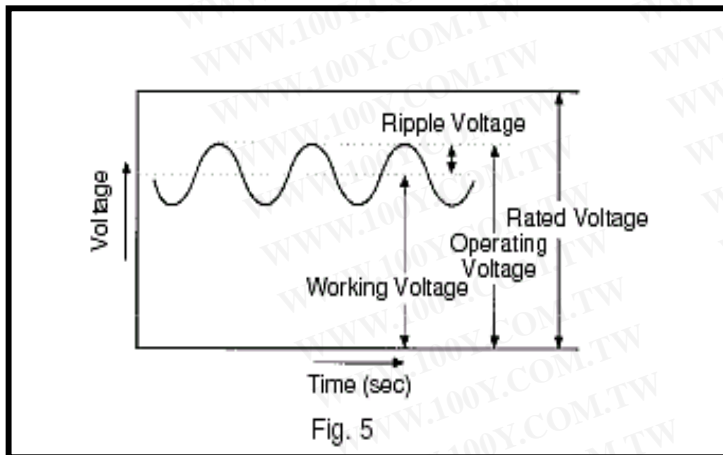

Fig. 5
- The tantalum capacitors must be used in such a conditions that the sum of the Working Voltage and ripple voltage peak values does not exceed the rated voltage (Fig. 5)